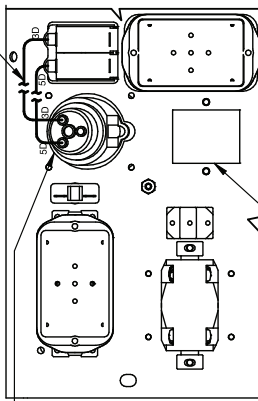

FIGURA 2
4. ENCONTRE OS CONDUTORES 3D E 5D. (VEJA A FIGURA 2. CORTE AMBOS OS CONDUTORES COMO MOSTRADO.